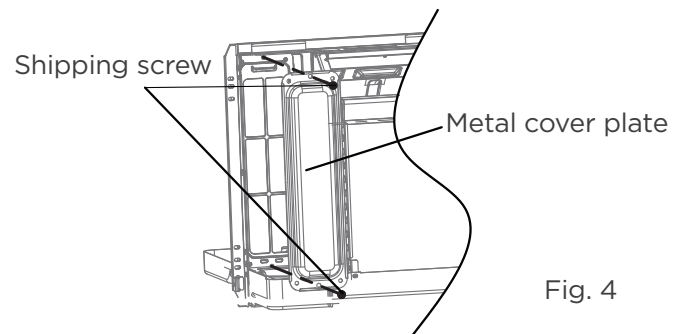

Fig. 4
- Remove the 2 shipping screws and the metal cover plate to open the vent door. (See Fig. 4.)